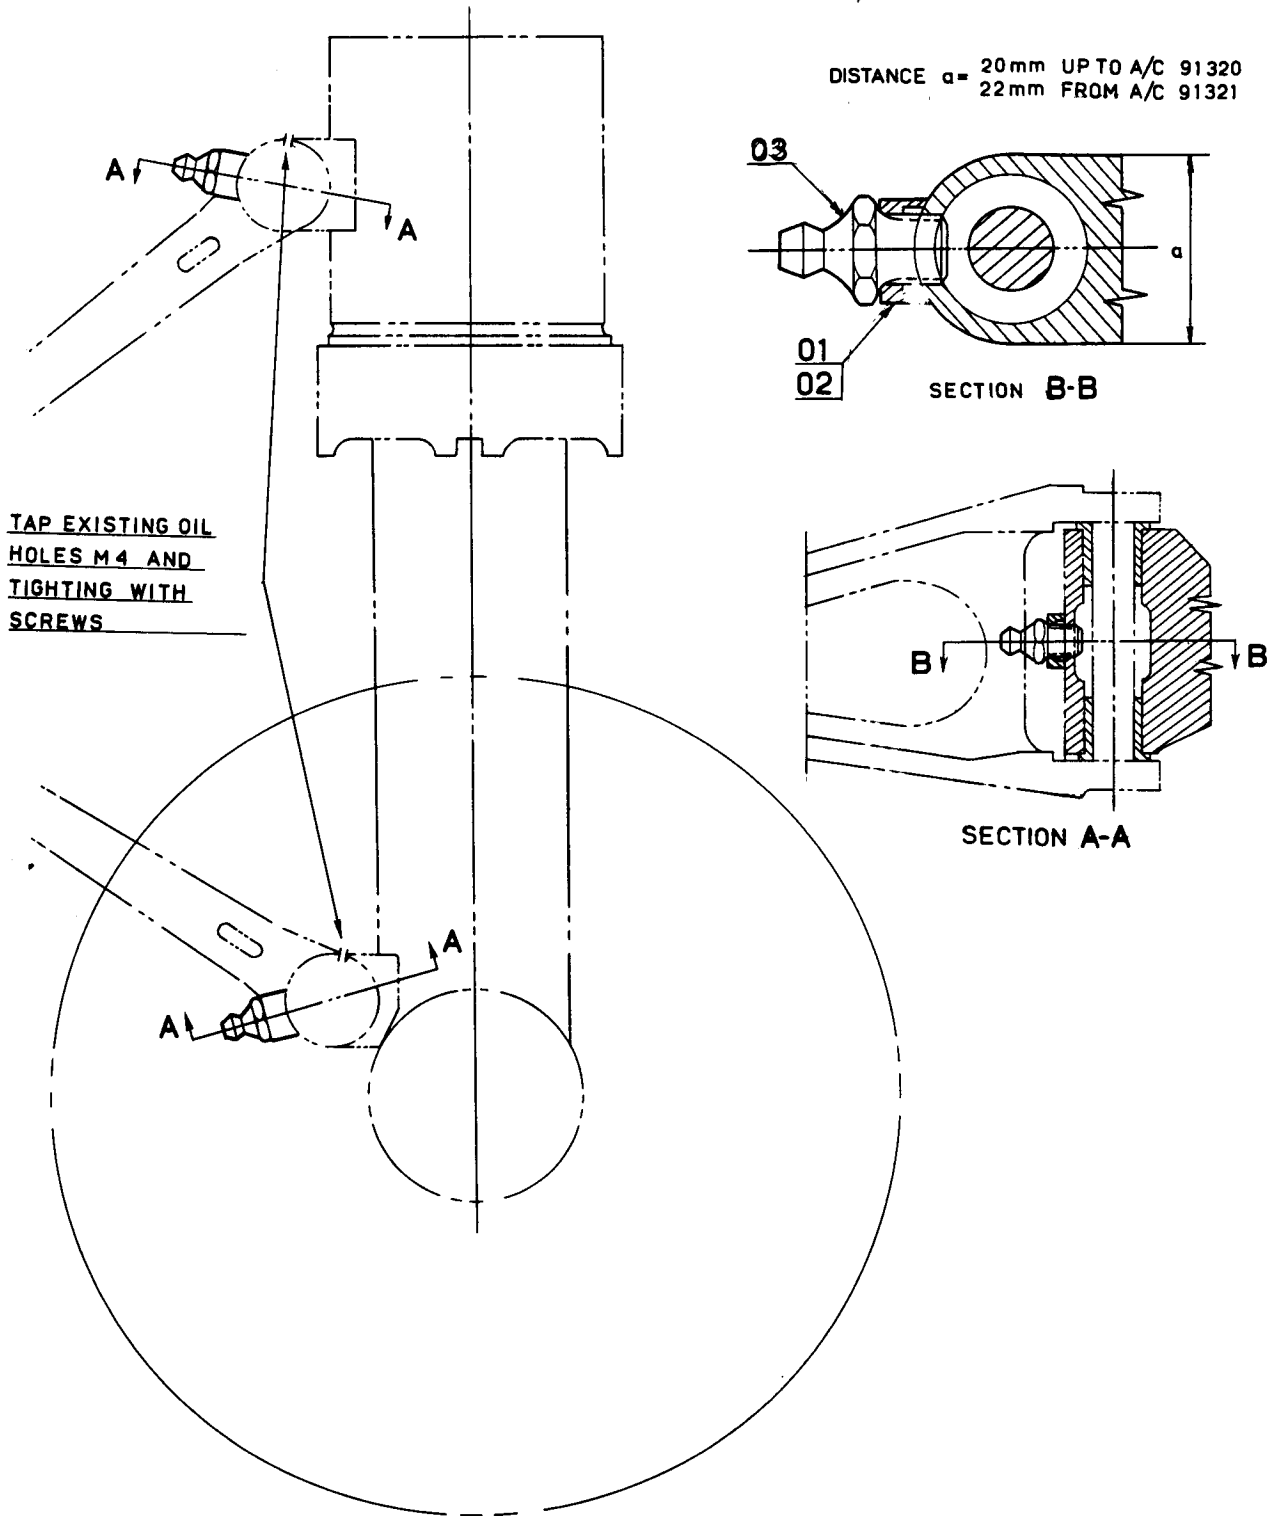

FIG. 2
Remove the bolts from the torque link attachments. Drill a hole  $\phi$  6.6 mm in upper and lower torque link lugs and tap M8 according to figure 2, section B-B.
Fit washer item 01 (dimension a=20 mm) alt. item 02 (dimension a=22 mm) with oil nipple item 03 according to figure 2, section B-B.